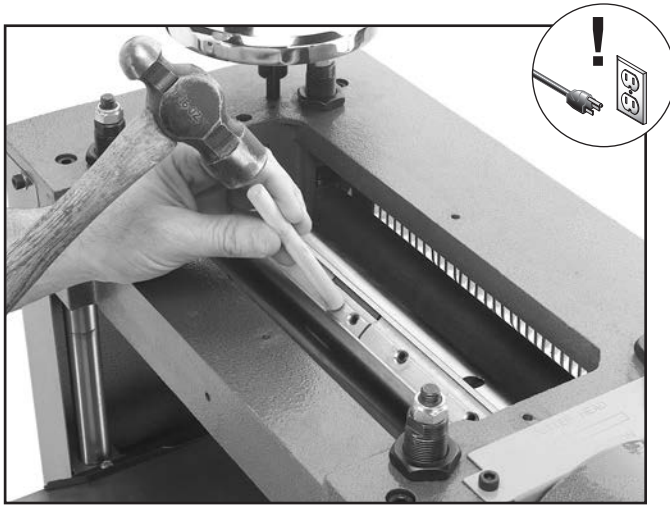

Figure 20. Loosening the gibs.
6. Use the brass drift or a small piece of wood to tap the gibs down into the cutterhead slot as shown in **Figure 20**.